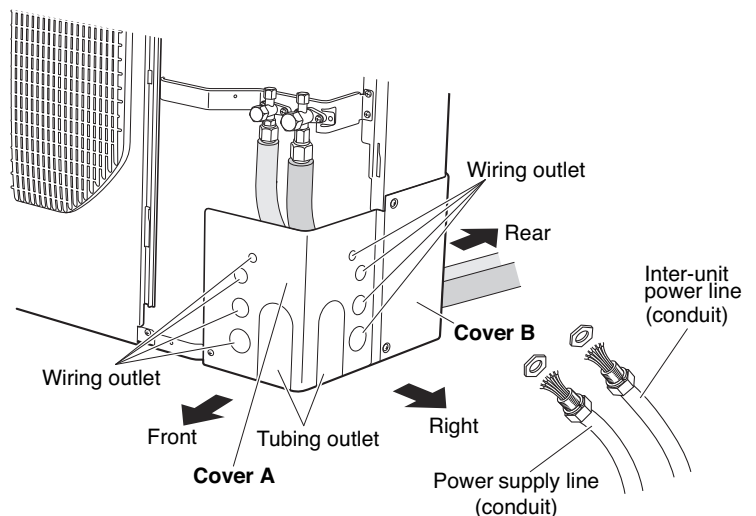

Fig. 46d
- The tubing and wiring can be extended out in 3 directions: front, rear, and right. Use a nipper or similar tool to cut out the knockout holes for the inter-unit control wiring outlet, power wiring outlet, and tubing outlet from the appropriate covers A and B. (Fig. 46d)